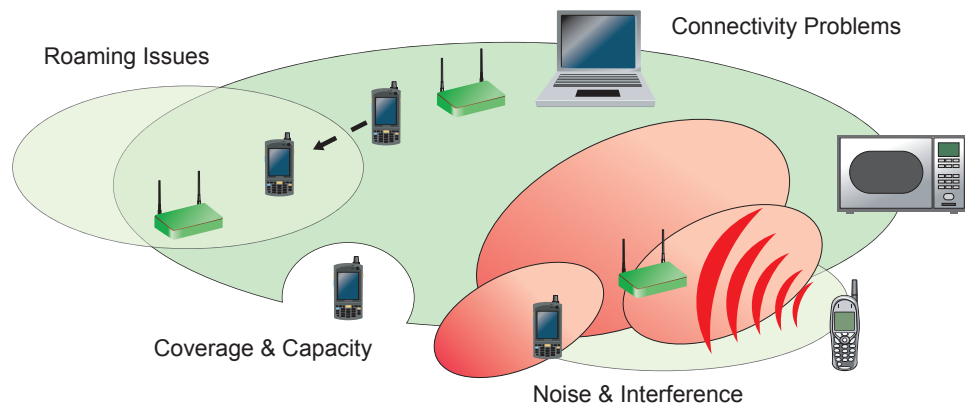

Figure 1: Common problems affecting WLAN performance
WLAN networks use a shared, license-free, Radio Frequency (RF) medium for communications. The operational challenges of running a wireless network are unique and different from wired networks. Some common issues often affecting WLAN performance are illustrated in Figure 1.